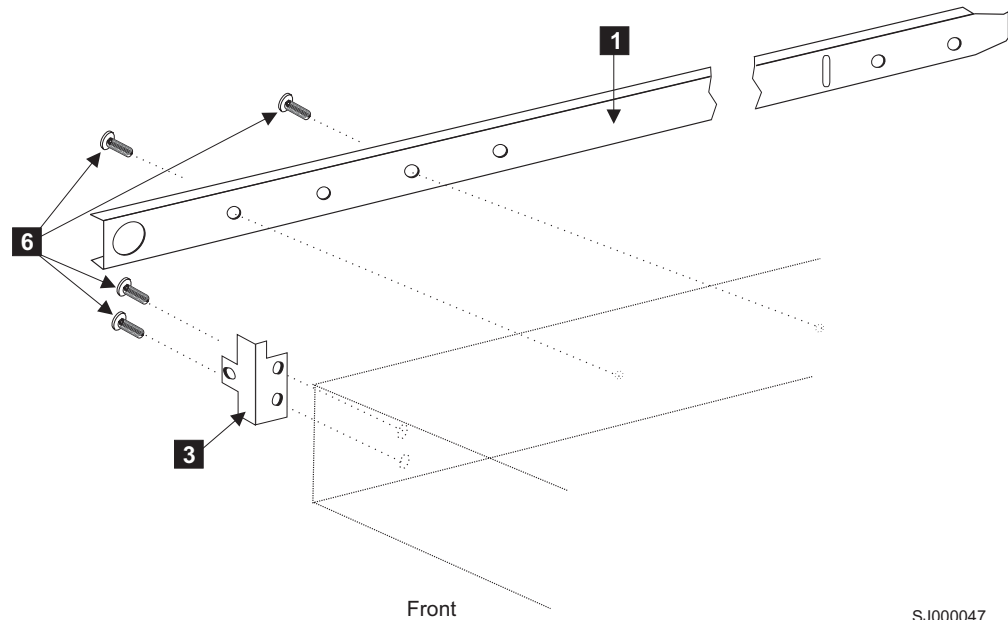

Figure 6. Mounting the moving portion of the slide and mounting brackets to the switch
- a. Position the flat side of the inner rail along one side of the switch. Align the holes in the rail with the threaded holes in the side of the switch chassis. The chamfered end of the inner rail should face toward the rear of the switch (away from the ports) as shown in Figure 6 on page 15.
4. Optional step: If desired, install the right rack mount bracket **2** (see Figure 4 on page 13) and the left rack mount bracket **3** on the switch chassis. Use these brackets to secure the switch to the rack as shown in Figure 6.